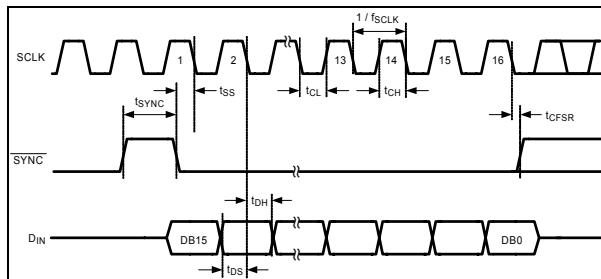

Figure 2: Digital Input Timing Diagram
3. Create the digital waveforms seen in *Figure 2* with your Pattern Generator. Ensure that SCLK doesn't exceed 40MHz. Refer to "Section 1.4: Serial Interface" and the DAC124S085 Datasheet for further details.
In *Stand-Alone Mode*, the serial interface must be driven by an external device. The three-wire interface (SCLK, SYNC, D_{IN}) is compatible with SPI, QSPI and MICROWIRE, as well as most DSPs. See the Timing Diagram (*Figure 2*) for information on a write sequence.